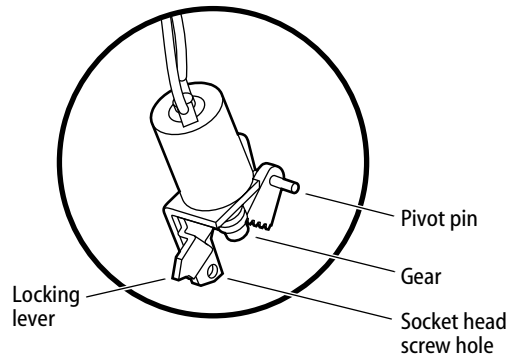

Figure 5 Rotating the motor assembly gear
- 1 Rotate the gear on the motor assembly until the locking lever is as close to the screw hole as possible. See Figure 5.